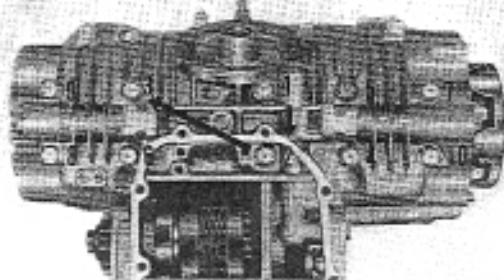

Fig. 3-76 Tightening sequence
- Tighten the ten UBS bolts on the crankcase in the sequence as shown in Fig. 3-76.